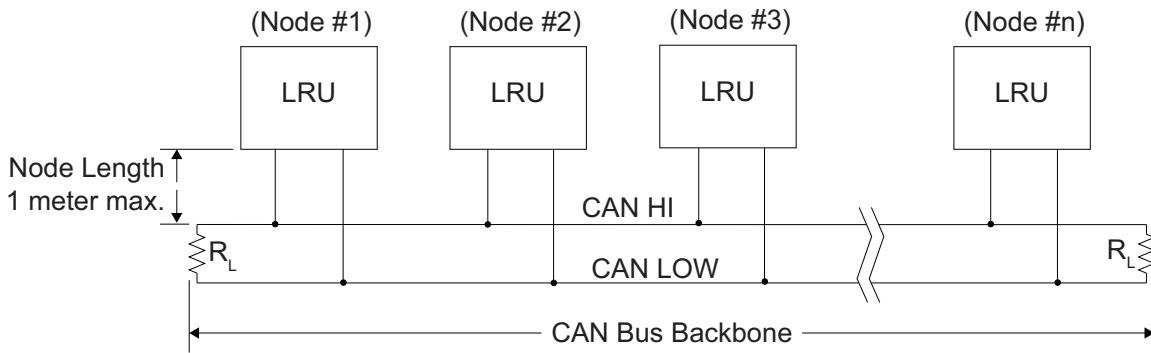

Figure 2-3. CAN Bus Configuration
The CAN (controller area network) bus (Figure 2-3) is an interface format used to establish communication between several LRUs in the G3X system. Each end of the CAN Bus “backbone” must be terminated by a $120\ \Omega$ resistor. Each node length (distance from CAN bus backbone to each LRU) must be 1 meter or less in length (keeping the node lengths as short as practicable is recommended). There is no minimum node length.
4. If a GDU 37X and/or GSU 73 unit (that was used as a CAN bus termination) is removed, the CAN bus will be unusable until the CAN bus is properly terminated at both ends of the 'backbone' (Figure 2-3).